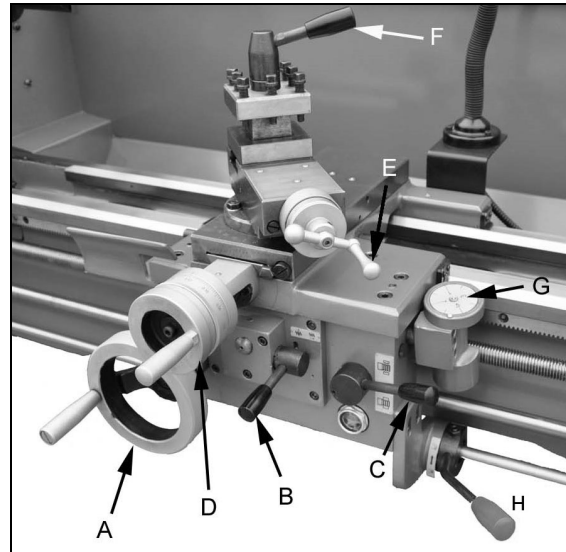

Figure 9-2
9. **Longitudinal Traverse Handwheel** (A, Figure 9-2) – Rotate handwheel clockwise to move apron assembly toward tailstock (right). Rotate handwheel counterclockwise to move apron assembly toward headstock (left).
10. **Feed Selector** (B, Figure 9-2) – Push lever to the left and down to activate crossfeed function. Pull lever to the right and up to activate longitudinal function.
11. **Half Nut Engagement Lever** (thread cutting) (C, Figure 9-2) – Move lever down to engage. Move lever up to disengage.
12. **Cross Traverse Handwheel** (D, Figure 9-2) – Clockwise rotation moves cross slide toward rear of machine.
13. **Compound Slide Traverse Handwheel** (E, Figure 9-2) – Rotate clockwise to move or position.
14. **Tool Post Clamping Lever** (F, Figure 9-2) – Rotate counterclockwise to loosen and clockwise to tighten. Rotate tool post when lever is unlocked.
15. **Threading Dial** (G, Figure 9-2) – Engage by pushing into the leadscrew. Pull out to disengage. The dial indicator and chart will specify at which point a thread can be entered.
16. **Forward/Reverse Lever** (H, Figure 9-2) – Pull lever up for clockwise spindle rotation (reverse). Push lever down for counterclockwise spindle rotation (forward). Neutral position is a center detent and spindle remains idle.